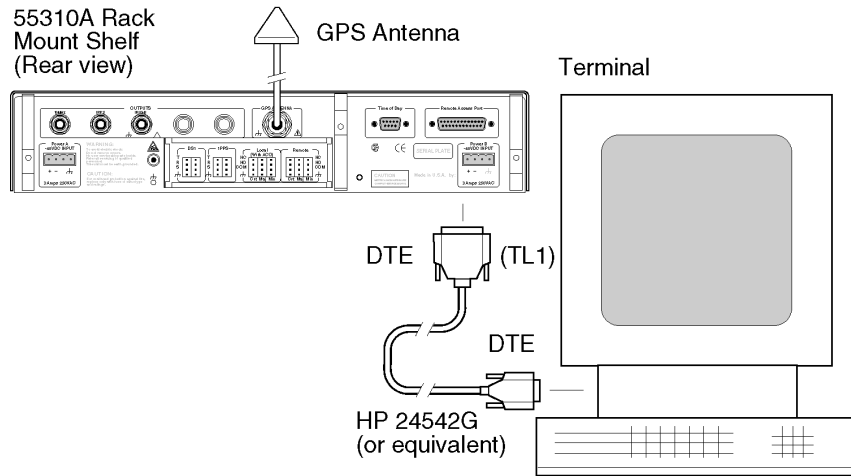

Figure 2-6A. Connecting the 55310A/55320A/55322A to a Terminal Via REMOTE ACCESS PORT to Use TL1 Commands for Communication (55310A shown)
*If you are going to communicate with the unit using TL1 commands, connect the unit to a terminal via the rear-panel **REMOTE ACCESS PORT** RS-232 port using an HP 24542G (or equivalent) (25-pin male to 9-pin female) interface cable (or whichever cable is appropriate for your terminal) as shown in Figure 2-6A.*